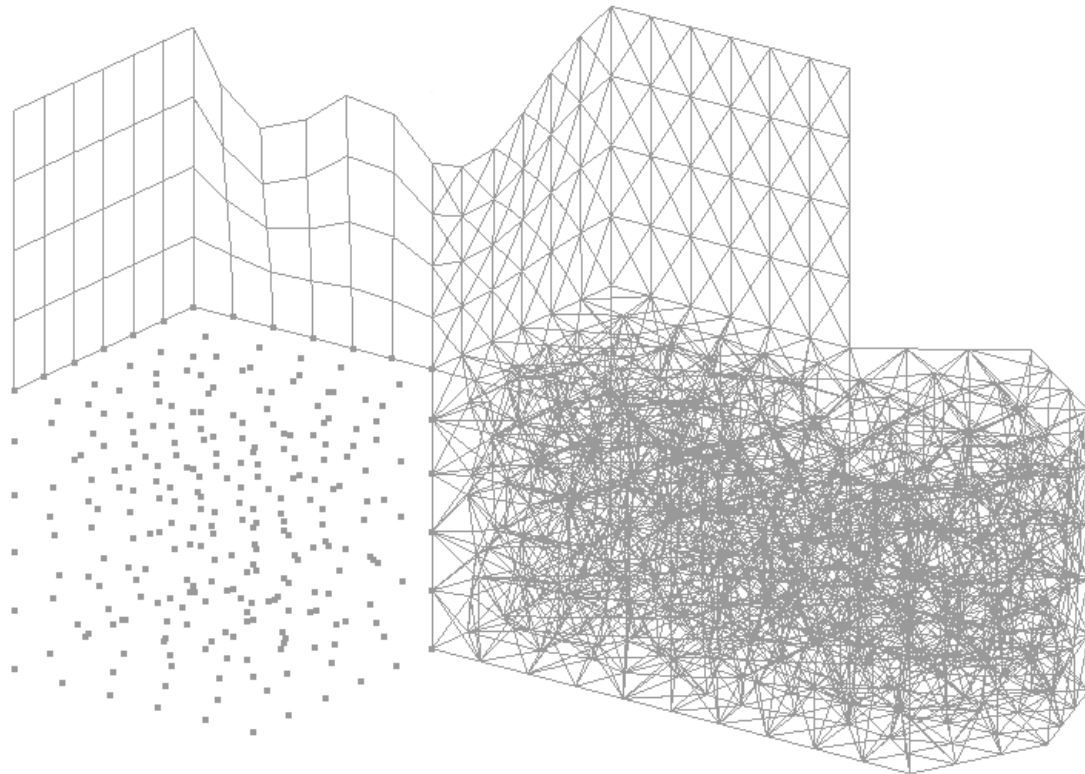
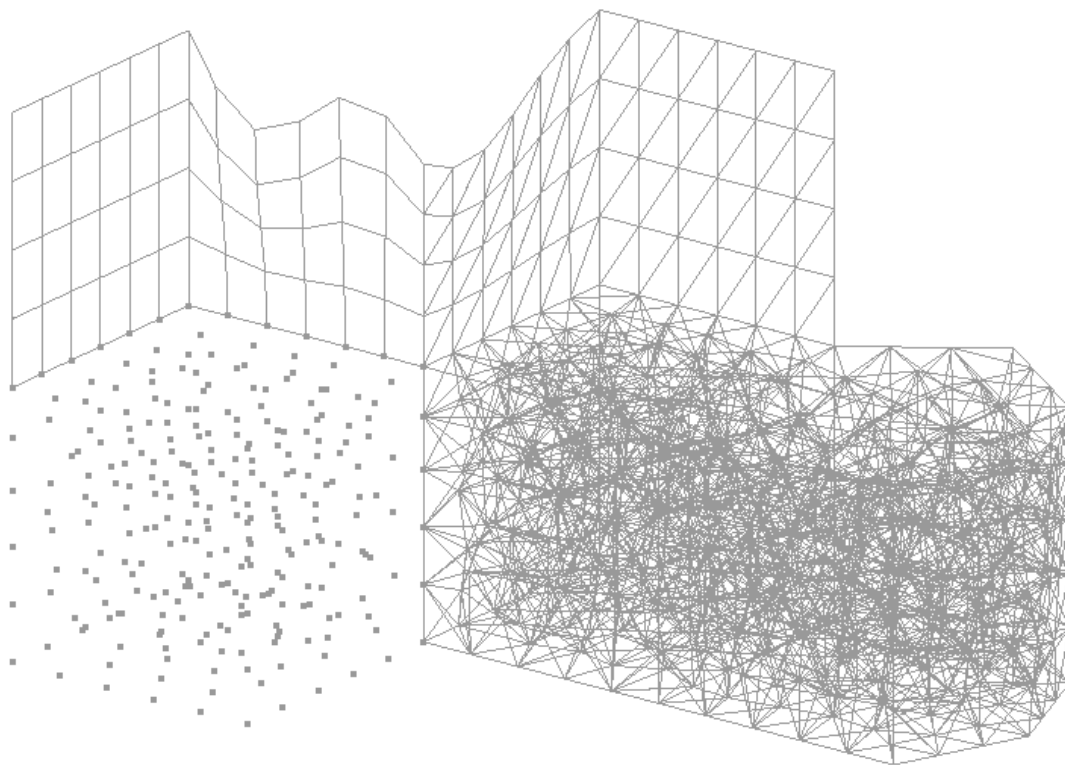

Figure 7. Structured mesh of quadrilateral and triangular elements on surfaces.
Figure 8. Structured mesh of quadrilateral and triangular elements on surfaces, with the option Symmetrical structured triangles not set.
- 11 . Another window appears in which to enter the maximum element size. Leave the default value unaltered and click **OK**. The result is the mesh shown in Figure 8.
- 12 . As seen in Figures 7 and 8, GID can obtain surface structured meshes made of quadrilaterals or triangles. There are two kinds of structured mesh that use triangles: the one shown in Figure 7 is obtained when the **Utilities->Preferences->Meshing->Main->Structured Mesher->Symmetrical structured->triangles** option is set. If this option is not set, the mesh presented in Figure 8 is produced (with fewer nodes than if using the previous option).